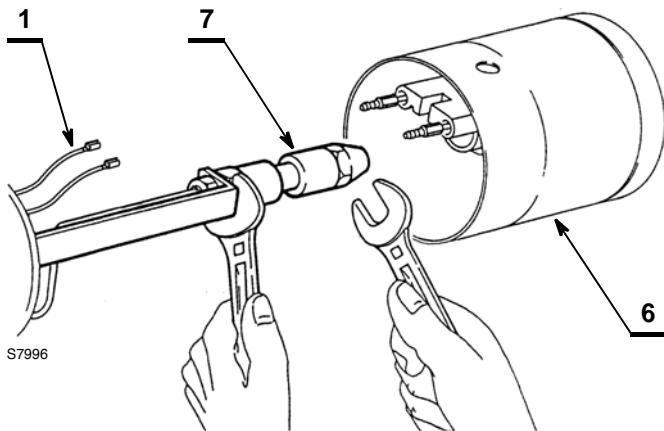

Fig. 22
- Replace the nozzle 7) (Fig. 22), holding the nozzle-holder with the help of a spanner.